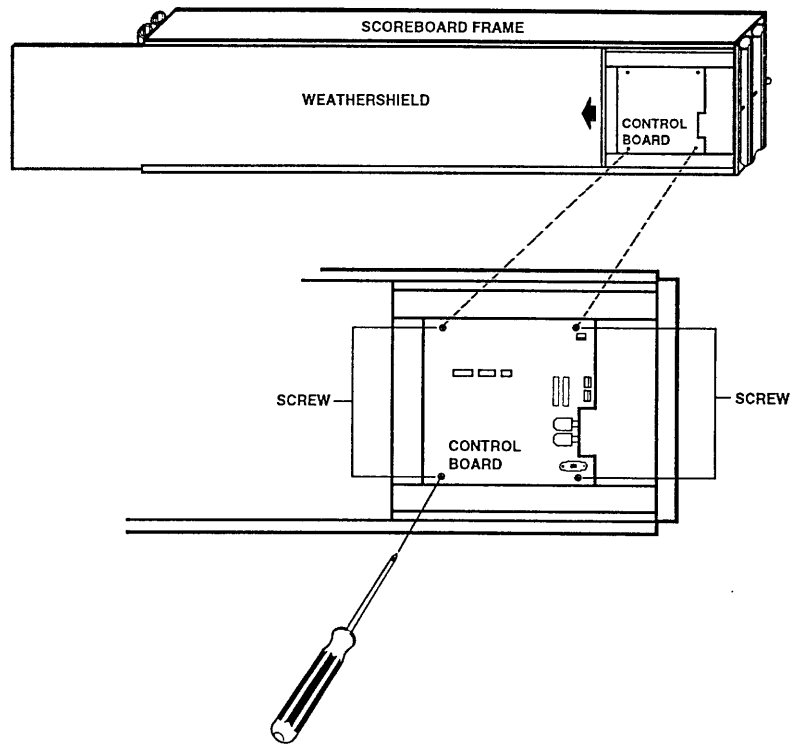

Figure 51
- Step 4** Remove the control board, see Fig. 51 on the following page.